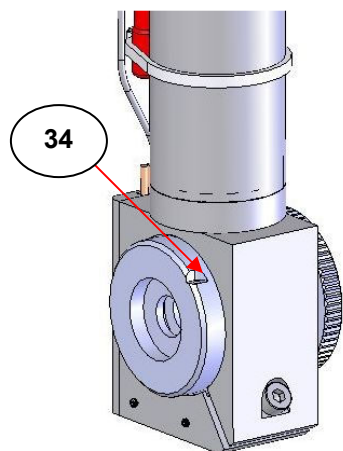

Fig 10E. GS20610 Solids Holder Installed
- 4.3. The cell holder part (28) will only accept sample cells from one direction. Inside the hole there is a circular flange ring (31) which prevents the sample cell from passing all the way through. Take
the sample cell and push it into the cell holder aperture as far as it will go. Ensure that the front plate of the **liquid sample cells** carrying the monitoring thermocouple well hole (34) is facing out of the aperture hole, i.e. this front plate part of the cell is **not** in contact with the circular flange ring (31). (See Figs 10A, B, C, D). The **solids holder P/N GS20610** is different to the liquid cells in that it is inserted into the cell holder part (28) aperture with its monitoring thermocouple well hole connection (34) emerging the same side as the flange ring (31) of the cell holder part (28). (See Fig 10E.)
- 4.4** Tighten the clamp screw (30) until the sample cell is firmly held in place and a good thermal contact is made with the cell holder.